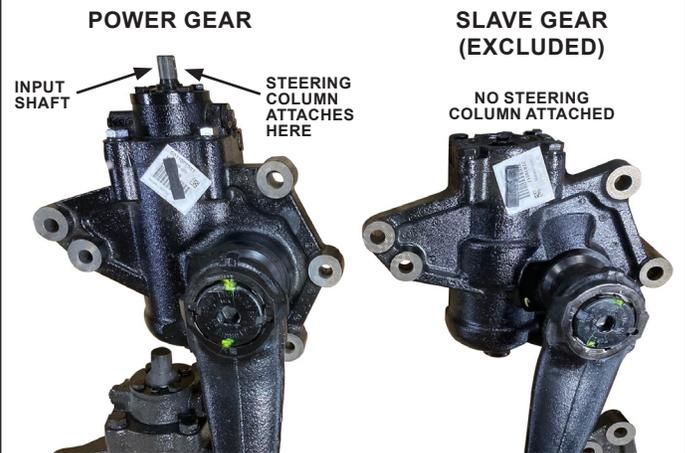

Figure 7 – Slave Gear Part Number and Image Example
- **Slave Gears:** Slave gears will not have an input shaft or a connection to a steering column. Note that slave gears are typically located on the passenger side of the vehicle. See Figure 4. A “P” in the part number represents a power steering gear. An “S” in the part number represents a slave gear. If the part number includes an “S,” this indicates the steering gear is a slave gear. This type of gear does not fall within the recall parameters. See Figure 7 for an example of a slave gear part number and a side-by-side comparison of a power gear and a slave gear.